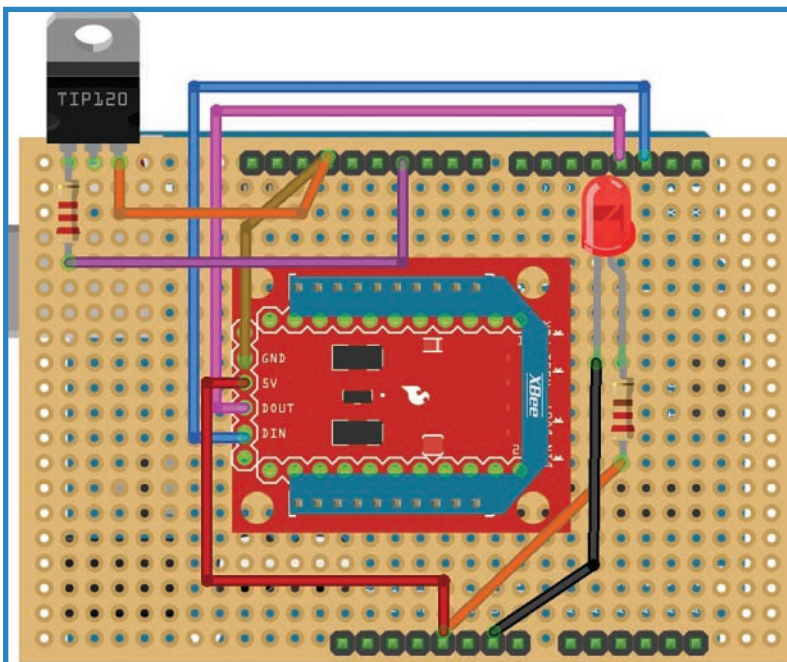

FIGURE 11.14 Solder the TIP120 transistor into the board.
- d. Add the TIP120 to the board, with the leftmost pin (called the base) connected to Arduino pin 11 via a 2.2K resistor. This is shown as a purple wire in Figure 11.14. The rightmost pin, called the emitter, connects to the Arduino's ground pin, and this is depicted as a cyan wire in the figure.